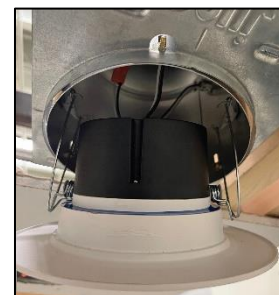

Figure 3
Step 3: INSTALL UNIT(S) INTO RECESSED HOUSING(S)
- 3.1 Squeeze legs of each torsion spring together and seat them inside the torsion brackets of the Housing. Release springs, and gently push module into housing until flush with ceiling. (Figure 3)